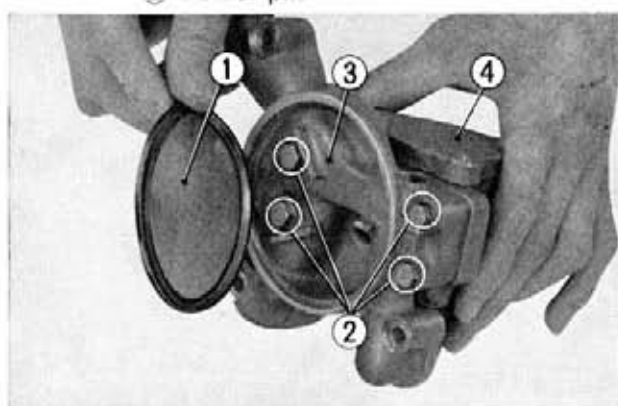

Fig. 3-12 ① Metal oil screen ③ Oil pump base
5. Remove the metal oil screen and unscrew the four bolts at the pump base to remove the oil pump body. (Fig. 3-12)